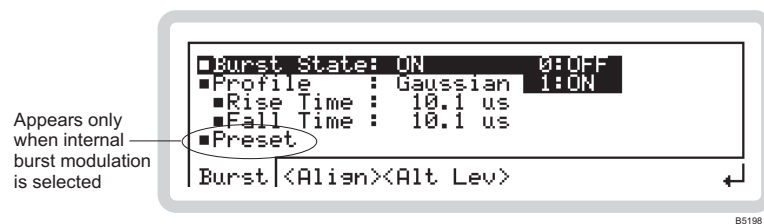
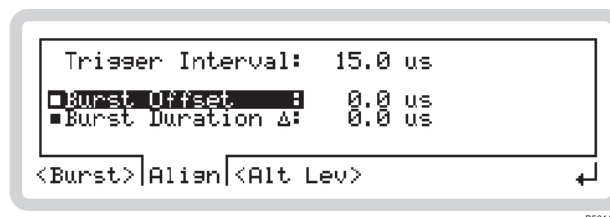

Fig. 3-34 Burst modulation
Fig. 3-35 Burst alignment
- 3 Press **SIG GEN** to show the main screen, and touch the **Burst** soft box to select the function. Touch **Burst...** and press **↓** to view the burst profile screen (Fig. 3-34).
From the burst modulation menu of Fig. 3-34, touch <Align> or press **<TAB>** to display the burst alignment screen (Fig. 3-35).
From the burst modulation menu of Fig. 3-34, touch <Alt Lev> or press **<TAB>** to display the burst alternate level screen (Fig. 3-36).